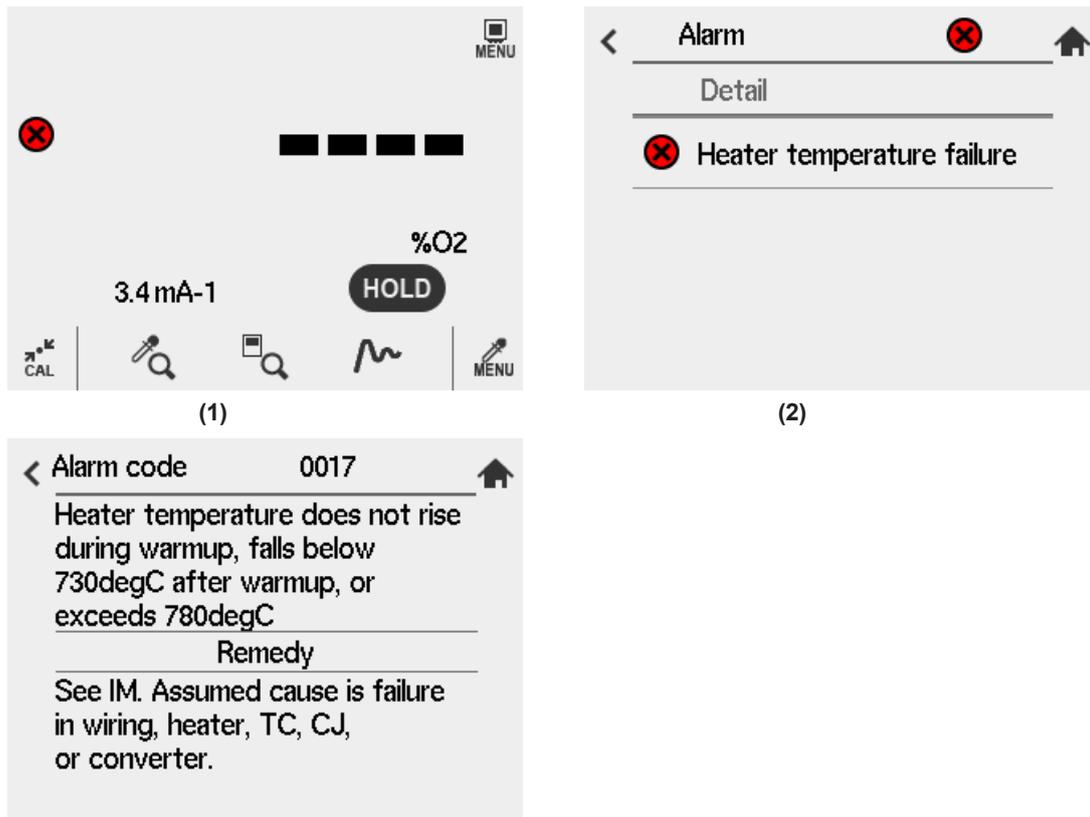

Figure 11.1 Fault description
- (1) Stops the supply of power to the heater in the detector to insure system safety.
- (2) Fault indication is displayed by blinking the icon to notify of a Fault generation (Figure 11.1).
- (3) When Fault is set to output in "Selection of contact output", Fault is output to contact. (refer to Section "7.5 Contact Output Setup".)
- (4) The analog output becomes the status which is set in "Output hold setting". (refer to Section "7.2 Output Hold Setting".)
When the display shown in Figure 11.1 (1) appears, pressing the Fault indication brings up a description of the Fault (Figure 11.1 (2))